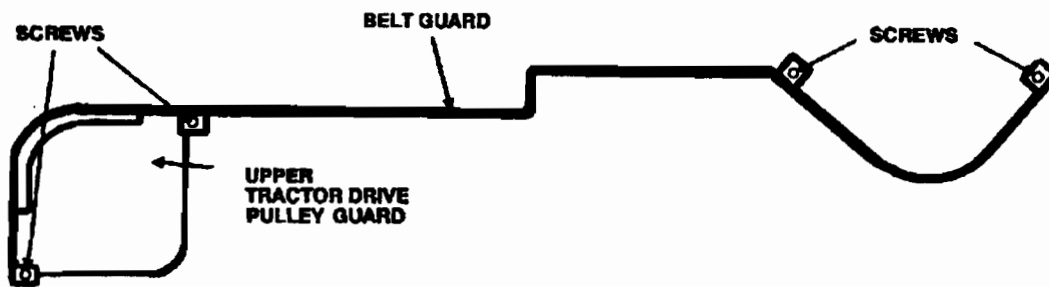

Figure 11. Installing the Belt and Pulley Guards
7. Mount the upper tractor drive pulley guard on the belt guard using 2 screws and washers (see Figure 11).